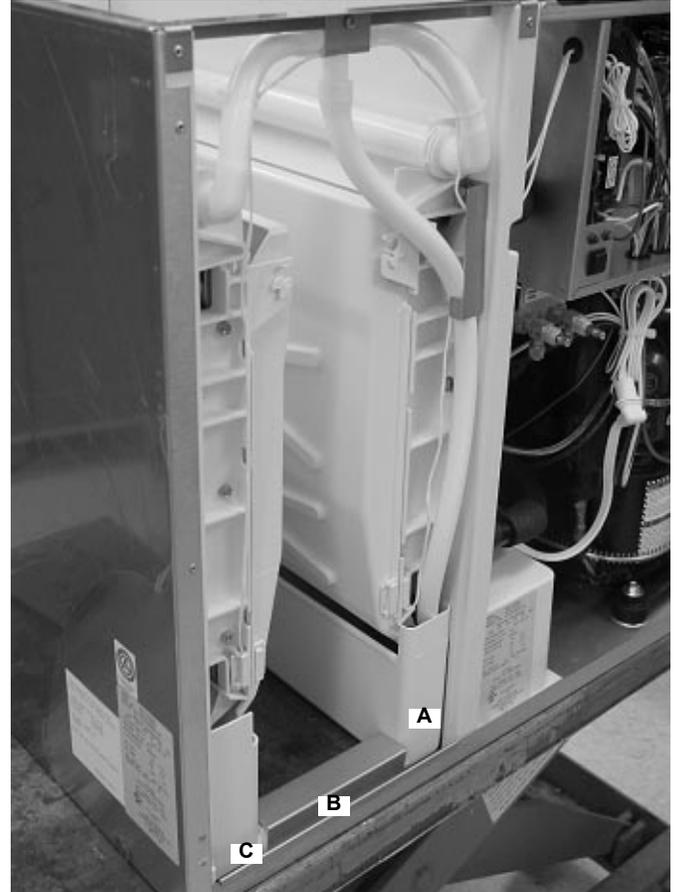

Figure 10.
5. Drain the evaporator water pans (A) (C) by removing the connection tube behind the metal evaporator support (B) (Figure 10).